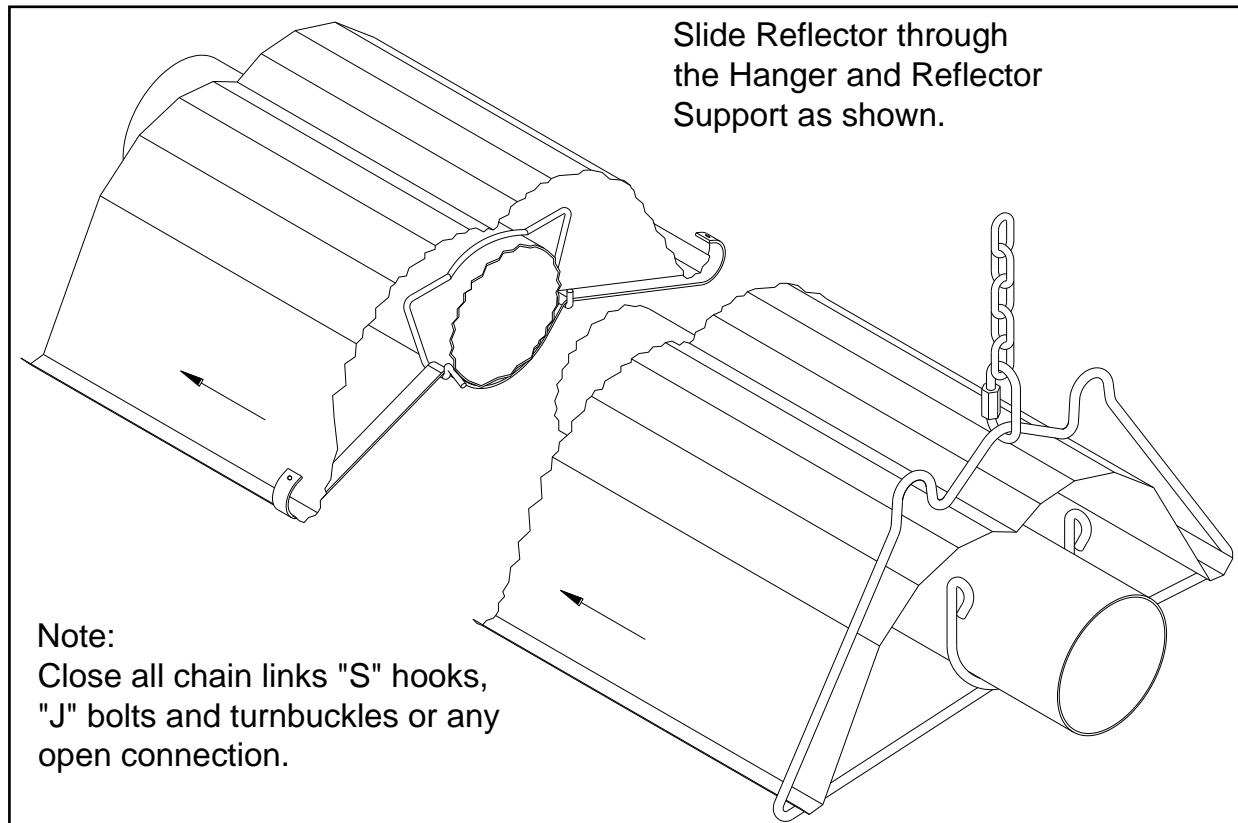

Figure 14: Reflector Installation
- Slide a reflector section into place within the support hanger, (Figure 14).